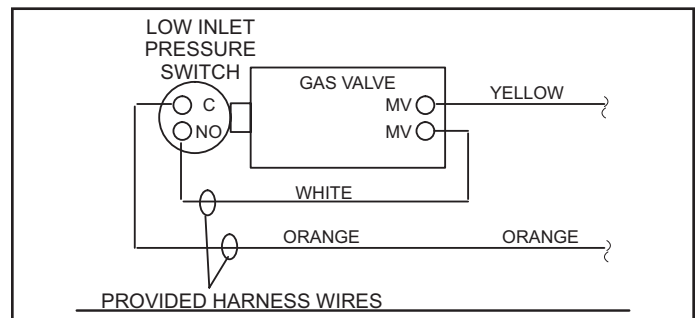

**Figure 1. Gas Valve with Low Inlet Pressure Switch Location**
8. Thread provided brass fitting to gas valve inlet until hand tight. Using properly sized wrench, tighten fitting 2 to 3 full turns being careful to position the side port to allow clearance for the pressure switch and harness. See Figure 1.
**NOTE:** Some installations may require the pressure switch and fitting assembly to be positioned differently than shown in Figure 1.